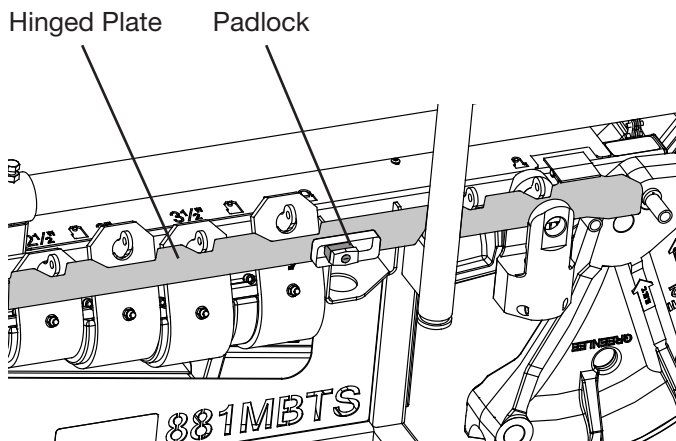

Figure 18
- The 2-1/2 in. shoe, Yoke, Ram Positioner and all Saddles have a hinged plate that folds over them and padlocks towards the middle near the rear fork tube. (Fig. 18)